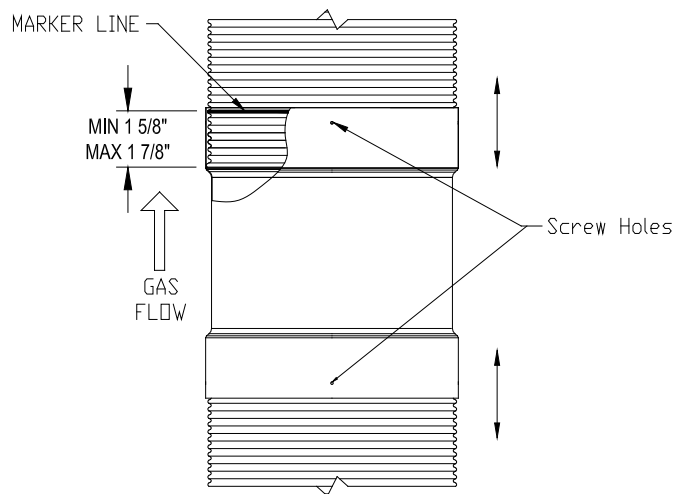

Figure 17 - SecureSeal Flex dry fit test
1.2. To make sure that everything is airtight before putting the sealant between both tubes, do a dry fit test by pushing the liner into the adapter until it reaches the bottom of the flare between the inner wall and the outer wall, then remove it (**Figure 17**).